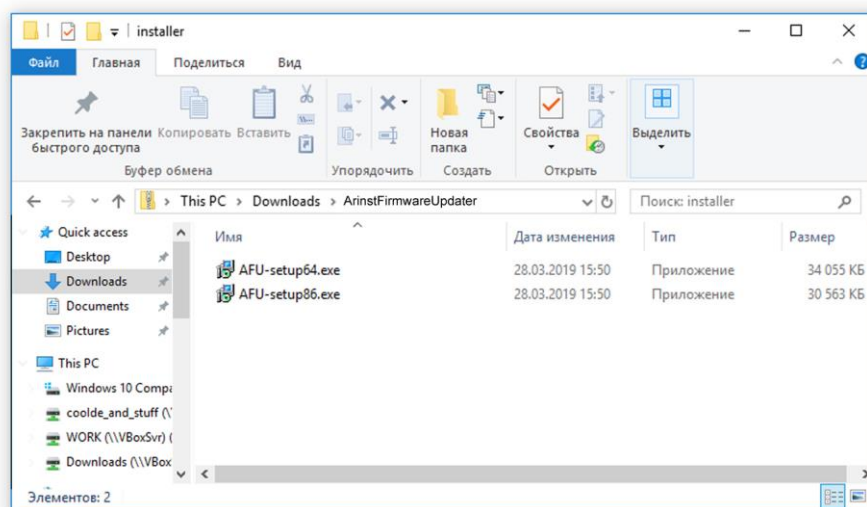

Figure A1.2 - Unzipped downloaded file
1.3. Enter the directory with the downloaded compressed (archived) file. Unzip the downloaded file using archiving programs (Figure A1.2).